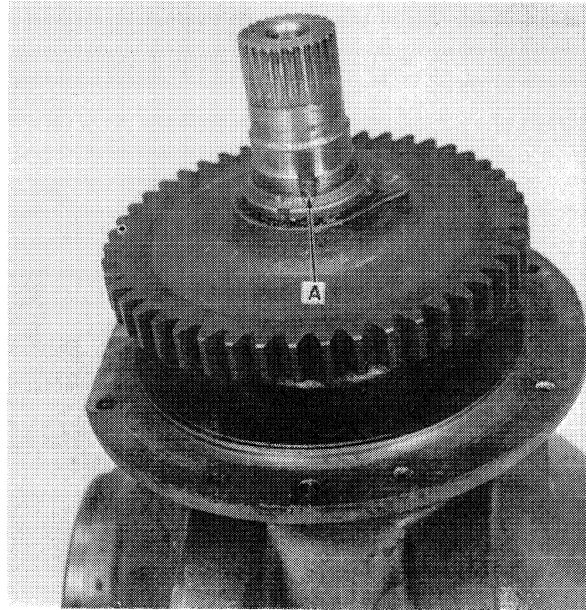

FIGURE 1-10
6. Unlock the stake nut, K, by driving a chisel in the groove shown at A, Figure 1-10. Remove the stake nut.
10. After the correct preload is obtained, fill the end of the gear, M, with Permatex and then install the stake nut, K, Figure 1-9. Securely tighten the stake nut and lock it by deforming it in the groove in the shaft, A, Figure 1-10.